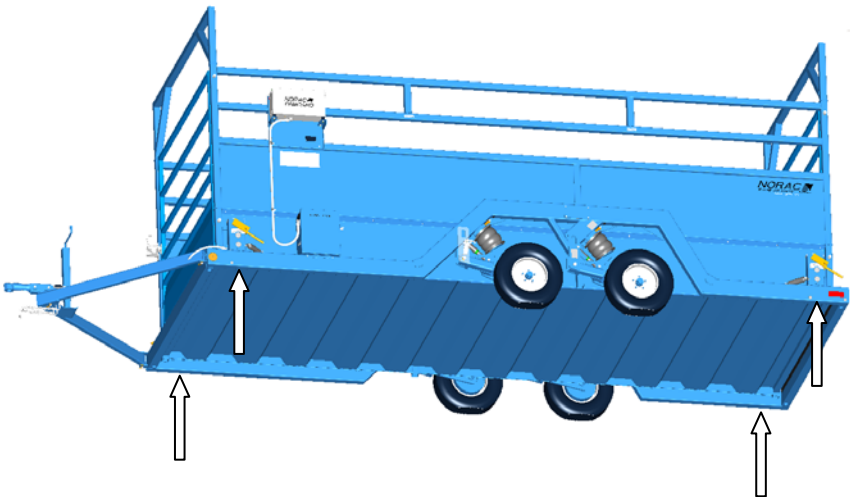

Figure 5 – Shimming Locations
11. Place shims directly under the base frame, under the load cell stands, to prevent teetering (see Figure 5).